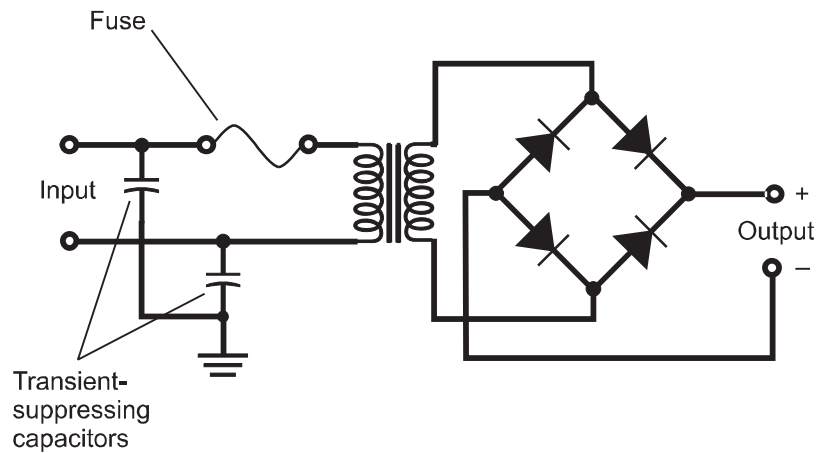

Fig. 8-11. A full-wave bridge rectifier with transient-suppression capacitors and a fuse in the transformer primary circuit.
The simplest way to get rid of common transients is to place a small capacitor of about $0.01\ \mu\text{F}$, rated for 600 V or more, between each side of the transformer primary and electrical ground, as shown in Fig. 8-11. A good component for this purpose is a *disk ceramic capacitor* (not an electrolytic capacitor). Disk ceramic capacitors have no polarity issues. They can be connected in either direction and work equally well.
A *fuse* is a piece of soft wire that melts, breaking a circuit if the current exceeds a certain level. A fuse is placed in series with the transformer primary, as shown in Fig. 8-11. A short circuit or overload anywhere in the power supply, or in equipment connected to it, will burn the fuse out. If a fuse blows out, it must be replaced with another one of the same rating. Fuses are rated in amperes (A). Thus, a 5 A fuse will carry up to 5 A for a little while before blowing out, and a 20 A fuse will carry up to 20 A.